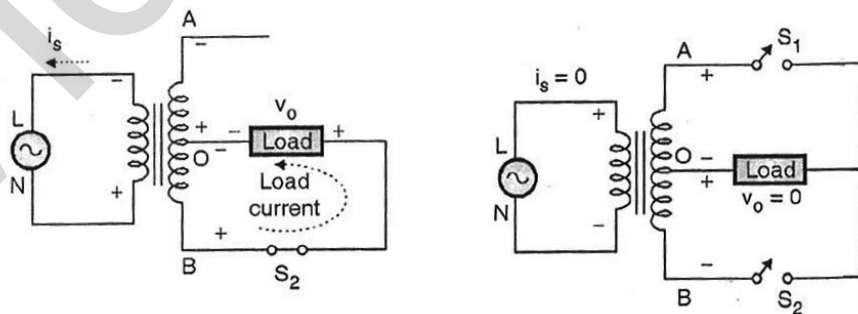

Fig. 2 : Equivalent circuits
- Therefore the secondary voltage polarities also are reversed as shown in figure 2(d).